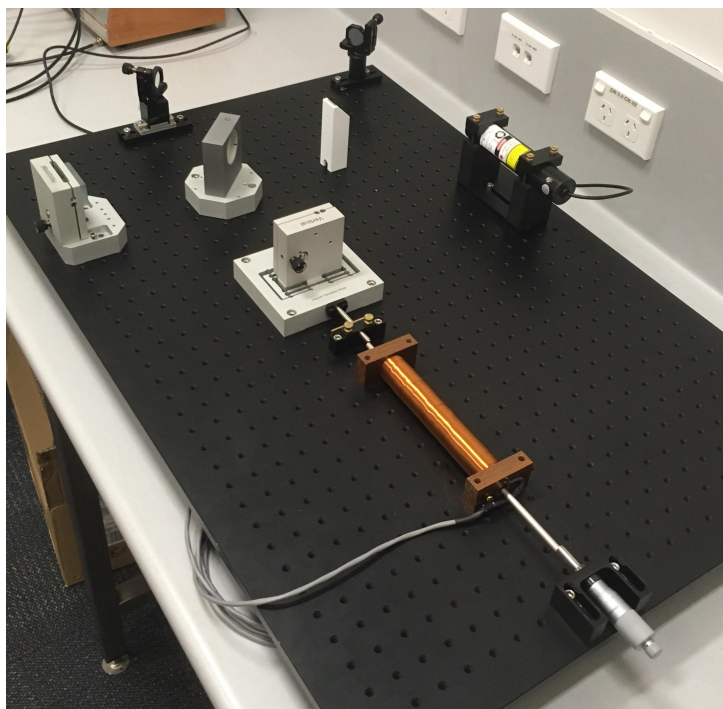

Figure 11: Magnetostriction Set Up
-The metal will be introduced into the interferometer arm with the mirror on the translation stage. On the other side of the metal the micrometre will be placed as in Figure 11 below.